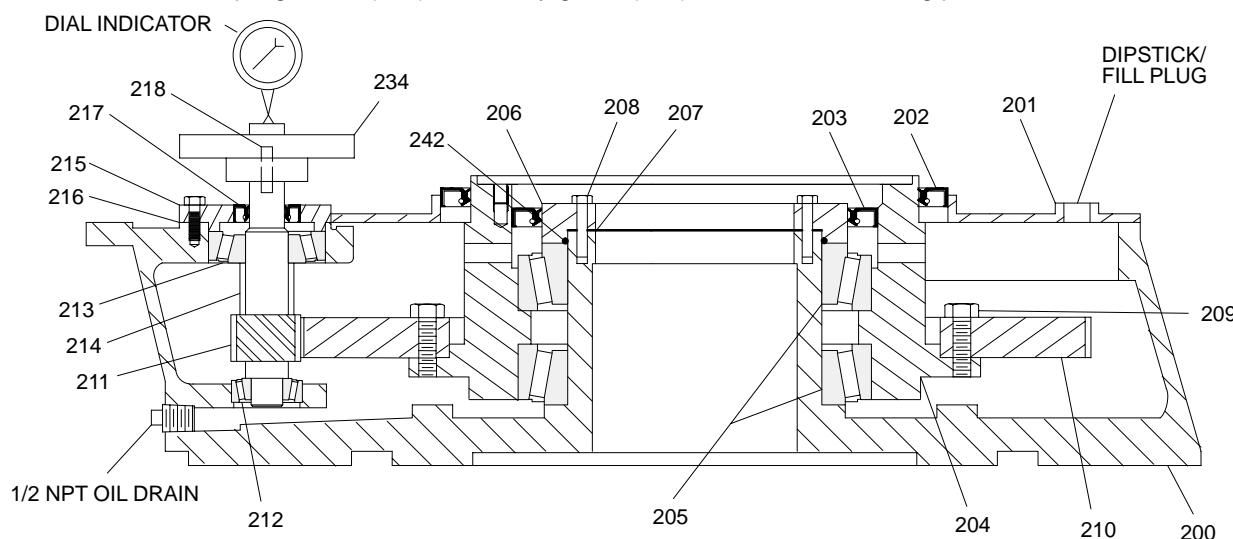

Figure 4
- a . Coat the bearing bores in the gear drive housing (200) and the pinion shaft (211) with oil prior to installing the high speed bearings (212 & 213).
- b . Press the outer race of the lower high speed bearing (212) into the bore of the gear drive housing (200) and press the inner race of the lower high speed bearing onto the end of the pinion shaft (211). Check for proper seating with feeler gauges. Refer to assembly drawing for correct orientation of the bearing races.
- d . Install the upper high speed bearing outer race on the pinion shaft (211) and slide it into the bearing bore.
- e . With the use of two jacking screws or bolts, as described in Section 2.2-d, set the low speed gear (210) in place on the gear hub (204). You may have to rotate the pinion shaft to mesh the gear and pinion together. Be sure to line up the holes in the gear with the holes in the gear hub. Remove the jacking screws.
- f . Install the hex head cap screws (209) and secure the gear to the gear hub by drawing the gear down onto the gear hub evenly with the cap screws (209).
- a . To seat the bearings, install the high speed bearing retainer (215) without the shim set (216), and tighten the hardware. Remove the bearing retainer and hardware.
- b . Install the high speed bearing retainer with a full new shim set (216) and tighten the hardware. Rotate the pinion shaft (211) to align the bearing rollers.
- c . Measure the axial float per the following procedure (refer to Figure 4):
- 1 . Install the coupling hub on the pinion shaft (211) and tighten set screw.
- 2 . Set up a dial indicator on the end of the pinion shaft (211).
- a . Drive a new outer oil seal (202) into the bore of the drive cover (201).